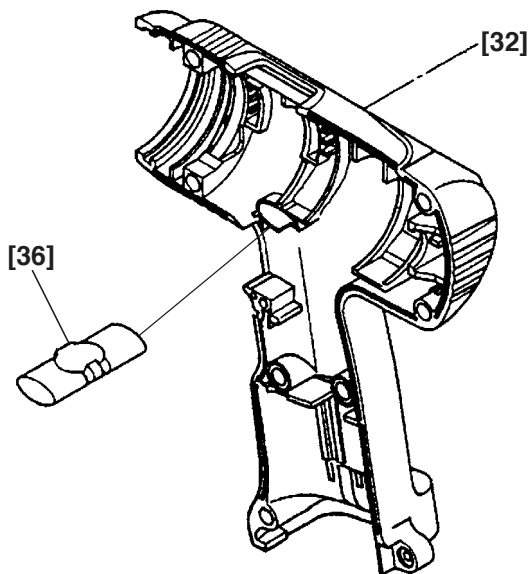

Fig. 15
- (4) Installation of the assembly reassembled in step (3) into Housing (A). (B) Set [32]
- (a) Install the Pushing Button [36] into Housing (B) [32]. (See Fig. 15.)